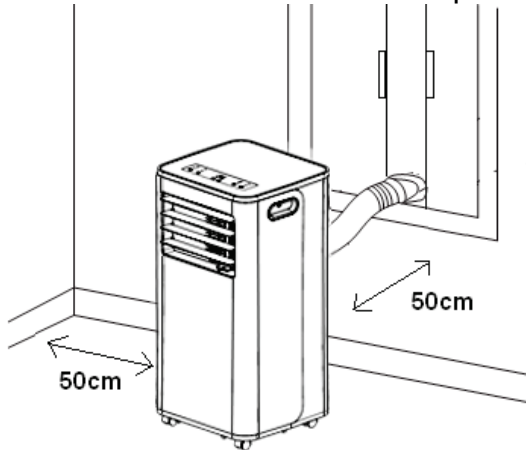

Figure 3
Unfold the hose to the desired length and then pass the other end of the hose through the window to allow the hot air to escape to the outside. **(Figure 3)**
- To maintain good air circulation and to avoid overheating the appliance, a minimum distance of 50 cm between the appliance and the wall (or any other obstacle) must be respected (Figure 3). Also make sure the hot air vents are not obstructed and the hose is properly installed as shown below **(Figure 4)**. The supplied hose has been specifically manufactured for this air conditioner. Do not use another type of hose as this may affect the proper operation of the unit. The hose length is adjustable and is between 30 to 150cm.